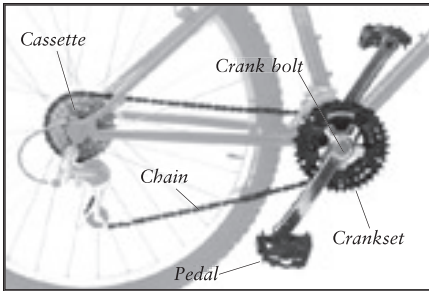

Figure 2- Drivetrain parts
The crankset is part of the drivetrain, the group of parts on the bicycle that transmit power to the rear wheel (Figure 2):
- Crank bolt (Figure 2): 360-415 lb•in (41-47 Nm)
The left crank arm is held in place by a crank bolt (Figure 2).